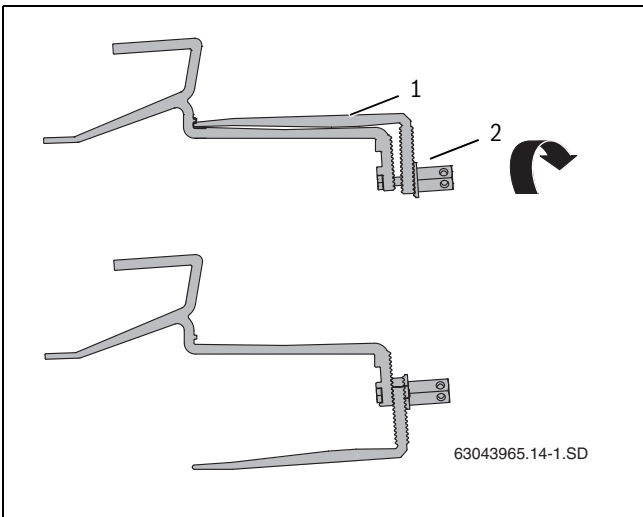

Fig. 11 Rotate lower part of roof hook
- Loosen the long hexagon nut (Fig. 11, [2]) on the roof hook and place the lower part of the hook (Fig. 11, [1]) in the correct position.